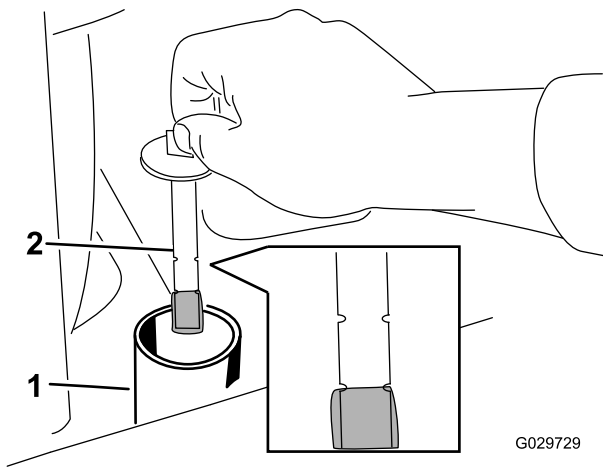

**Figure 27**
7. Clean the area around the filler neck of the hydraulic tank (Figure 27).